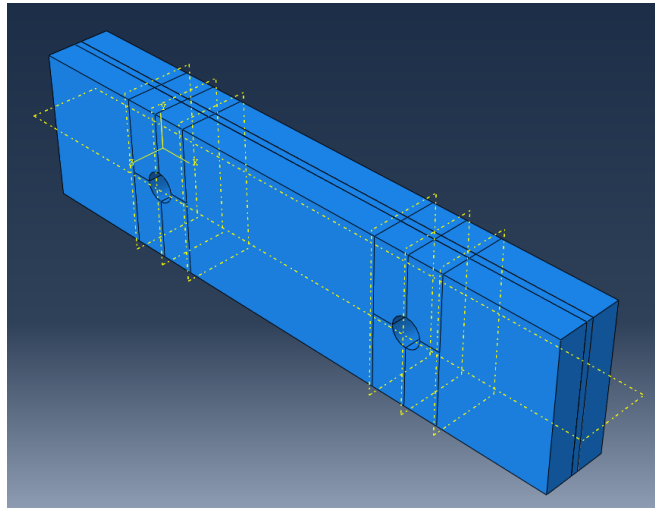

Figure L1–20. Arrangement of the plates and the gasket.
7. Now create the second instance of the plate (repeat step 4) and translate it to lie on the other side of the gasket. Follow the same procedure as in step 5 and 6. Chose the plate as the instance to be translated this time. The assembly is shown in Figure L1–20.